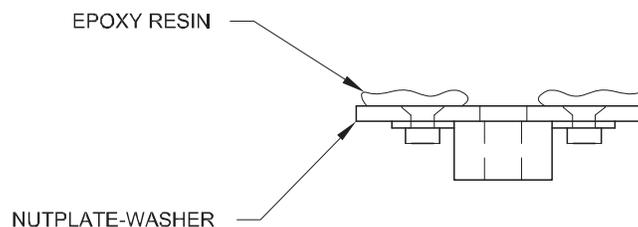

Figure B-17 Nut Plate Washers
14. Apply epoxy resin to the flat side of the nut plate washers, see Figure B-17.